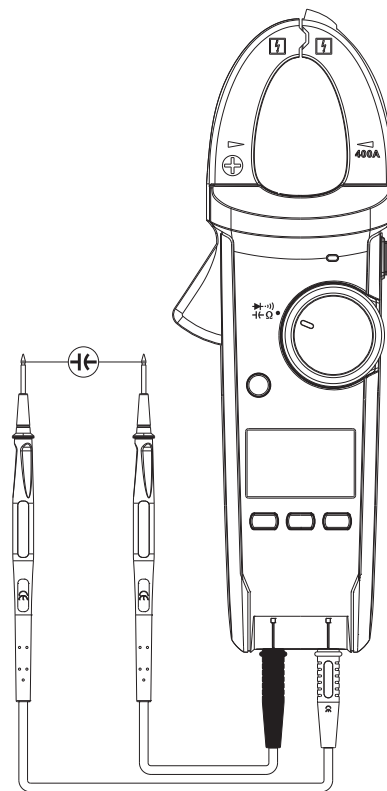

Figure 9
8. Measuring of Capacitance (See Figure 9)